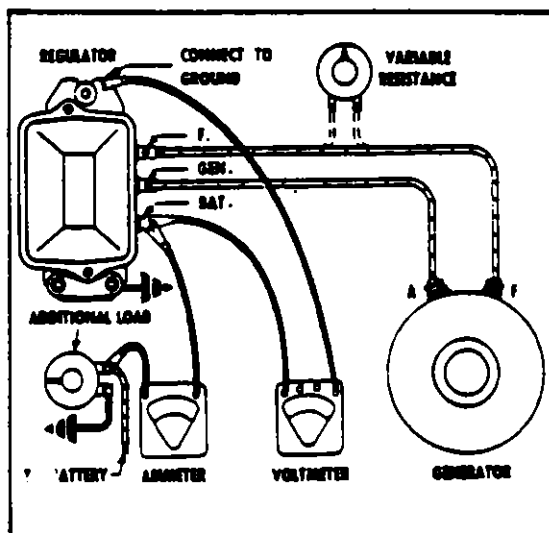

FIGURE 9-13. CHECKING CURRENT REGULATOR, LOAD METHOD
a. Connect ammeter into charging circuit, as in Figure 9-13.